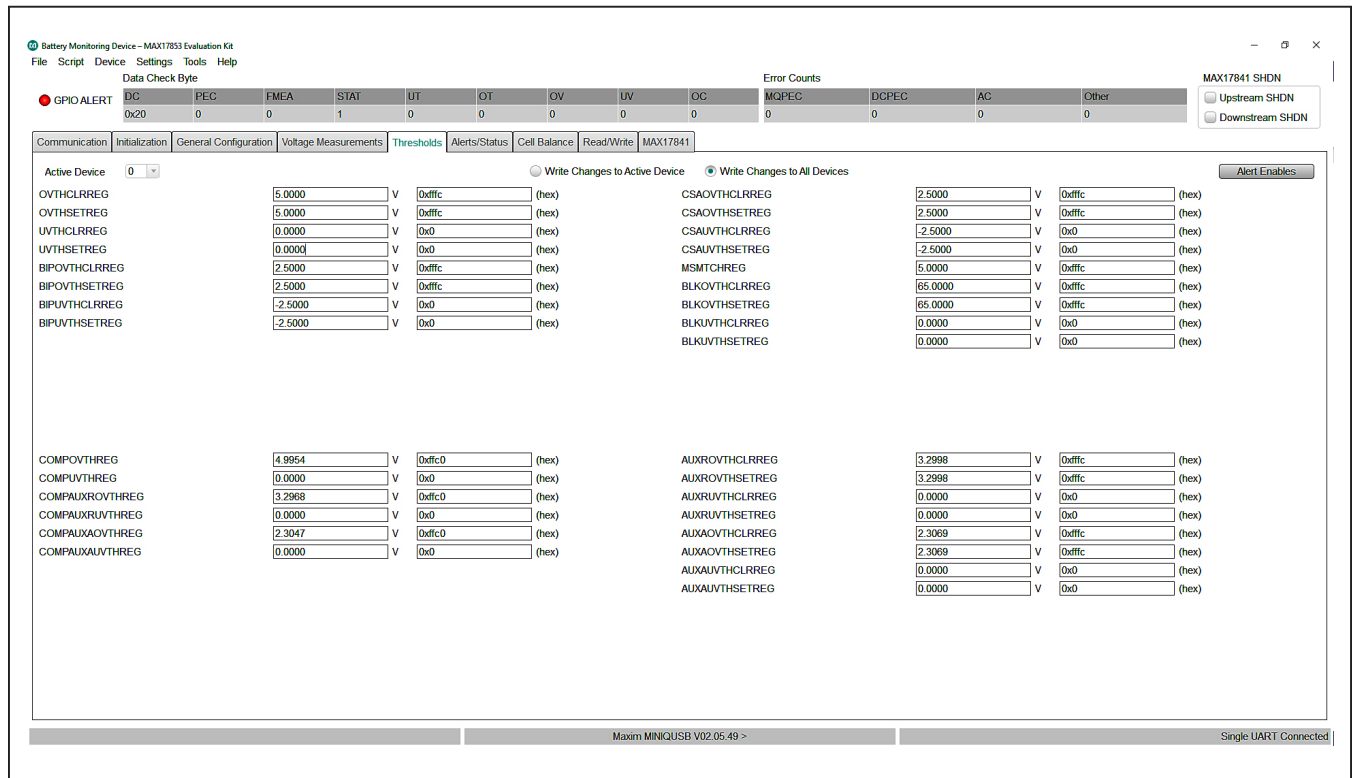
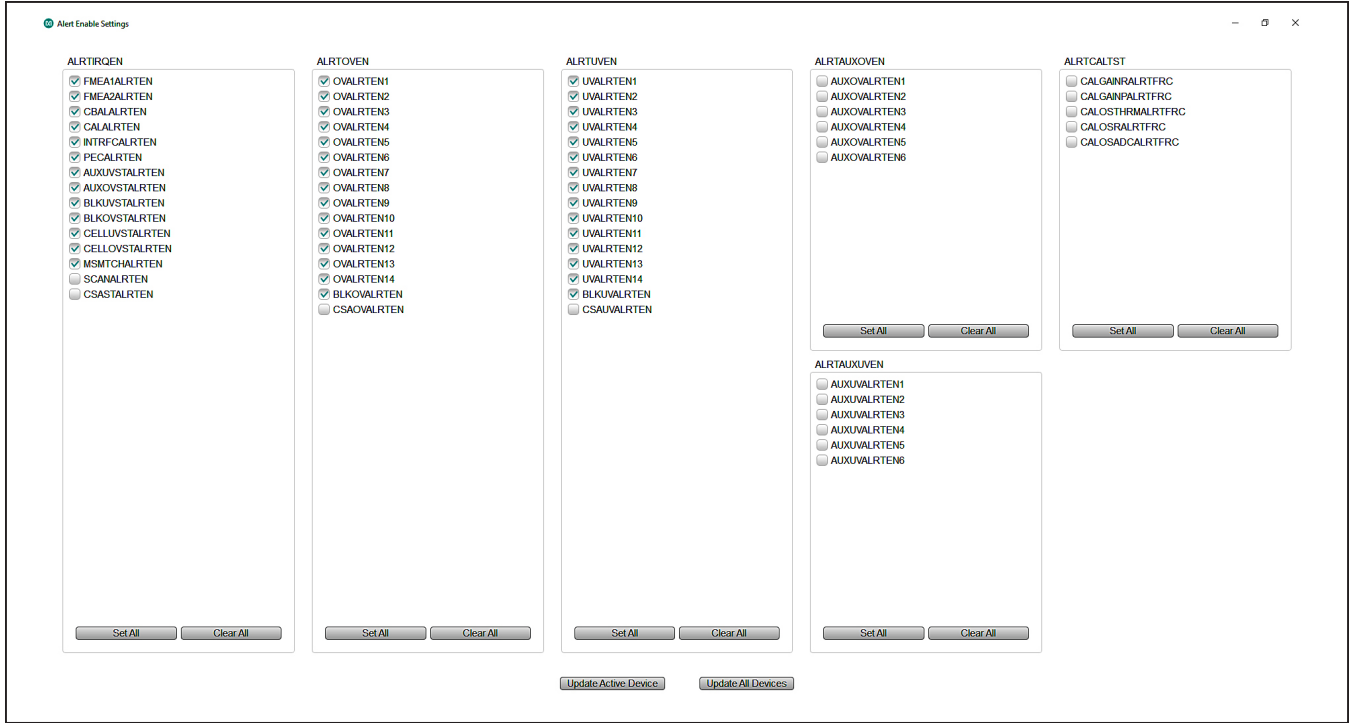

Figure 18. Thresholds Tab
Figure 19. Alert Enable Panel
The lower right-hand corner in the **Voltage Measurements** tab displays a legend that indicates visually the state of each voltage measurement and comparator alert. For the visual alert to be active, the thresholds must be set and enabled in the **Thresholds** tab (Figure 18).
Clicking on the **Thresholds** tab (see Figure 18) opens the panel where users can enter OV/UV and fault thresholds in hex value or voltage (see Figure 19).
Clicking the **Alert Enables** button in the top-right corner of the **Thresholds** tab opens the **Alert Enable** panel (see Figure 19).
- 5) Select the **Thresholds** tab (Figure 18) and set the comparator and cell voltage threshold. Set **OVTHSETREG** to 1.41V, **UVTHSETREG** to 1.2V, **COMPOVTHREG** to 1.5V, and **COMPUVTHREG** to 1.1V (threshold values automatically adjust to the closest hex value).
- 6) In the **Thresholds** tab, click the **Write Changes to All Devices** radio button, and then open the Alert Enables panel (Figure 19) by clicking the **Alert Enables** button. Click the **Set All** button for **ALRTOVEN** and **ALRTUVEN** to command the MAX17853 to check the OV/UV condition. In the **Alert Enables** panel, the user can mask OV/UV faults. The user can also mask faults from generating an alert output activation by unchecking the appropriate checkboxes in the **ALRTIRQEN** group box. Finally, click the **Update All Devices** button at the bottom and close the panel.